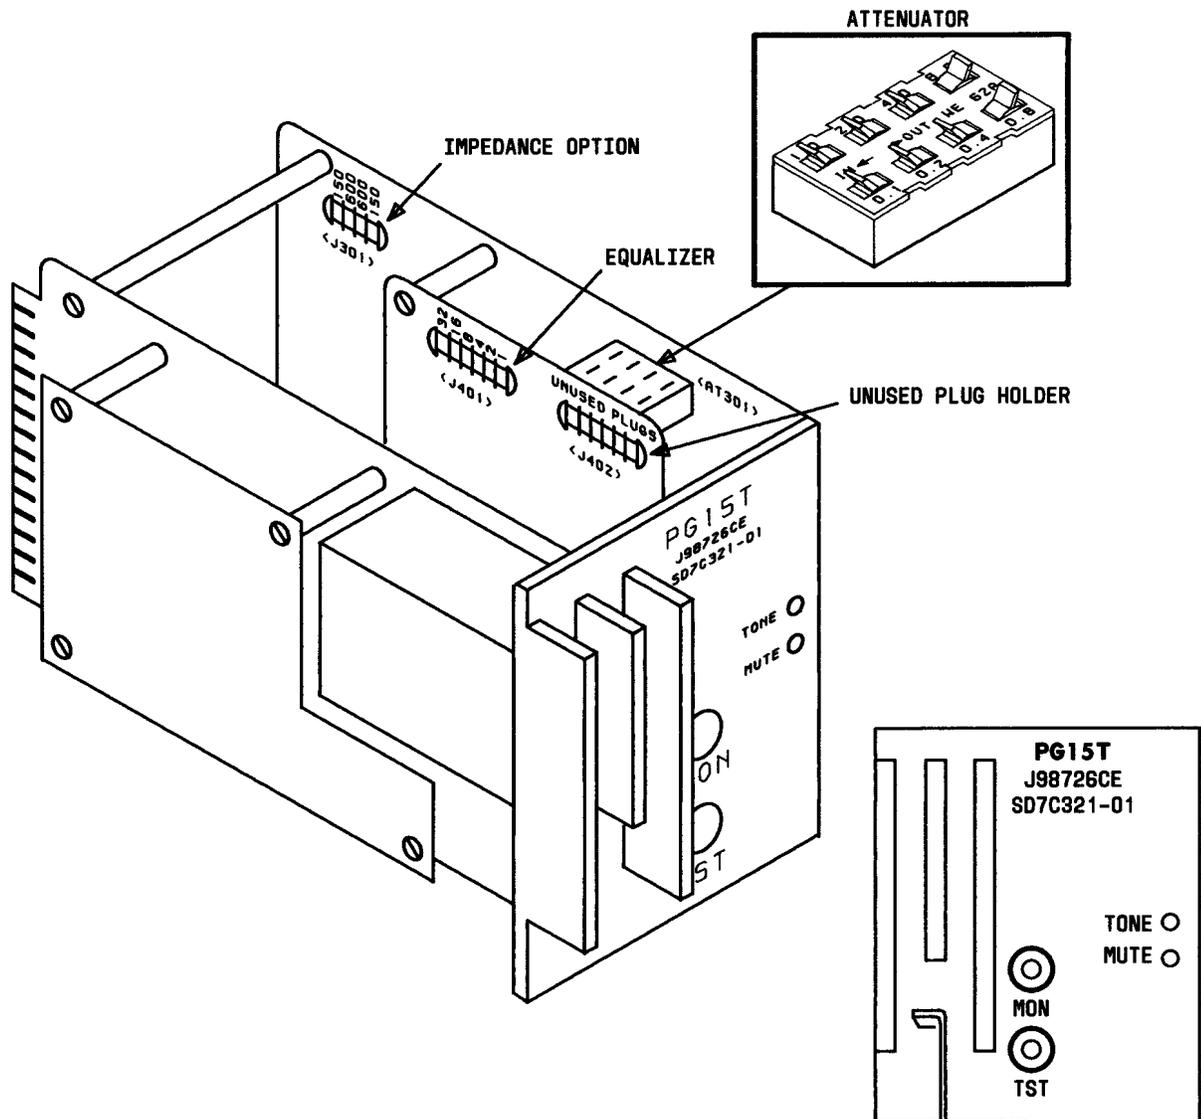

Fig. 1—PG15T Channel Unit
2.01 Each PG15 channel unit is three times as wide as a message channel unit and therefore occupies three adjacent channel unit slots. The PG15T channel unit is shown in Fig. 1 and the PG15R channel unit is shown in Fig. 2. Three blank channel units are supplied with each program channel unit. The blank channel units may be used to plug the three channel unit slots that are adjacent to the slots occupied by a PG15 channel unit.